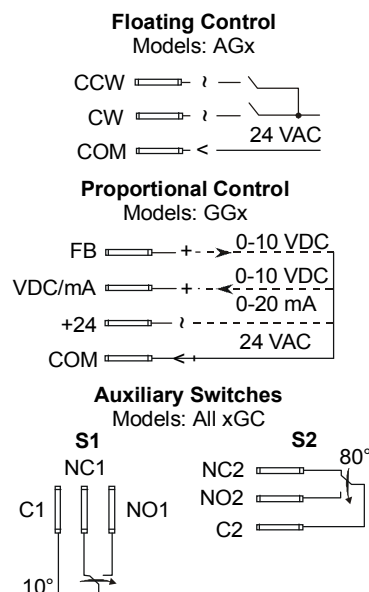

Figure 9: Wiring for M9109 Models
The actuator requires a 24 VAC control signal and is compatible with a variety of controllers. (See Figure 9.)
4. Insert the cable wires through the plastic plug, compression fitting, or conduit fitting, and connect to the terminals using the appropriate wiring diagram in Figure 9.
Note: At this point, the normally closed contact closes, and the normally open contact opens. (See Auxiliary Switches in Figure 9.)
Note: At this point, the normally closed contact opens, and the normally open contact closes. (See Auxiliary Switches in Figure 9.)